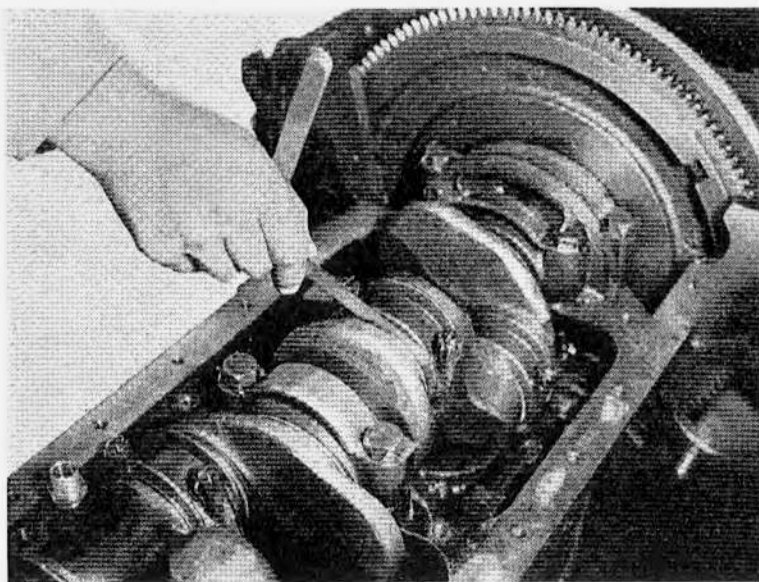

Figure 101 – Measuring Connecting Rod Side Clearance
(7) New bearing inserts type bearing clearance should be 0.05 mm maximum and 0.02 mm minimum.
(8) Rotate the crankshaft after bearing adjustment to be sure the bearings are not too tight. Install cotter pins to connecting rod bolts.
(9) Check connecting rod side clearance between connecting rod cap and side of crankpin (Fig. 101). See engine fits and tolerances for clearance.